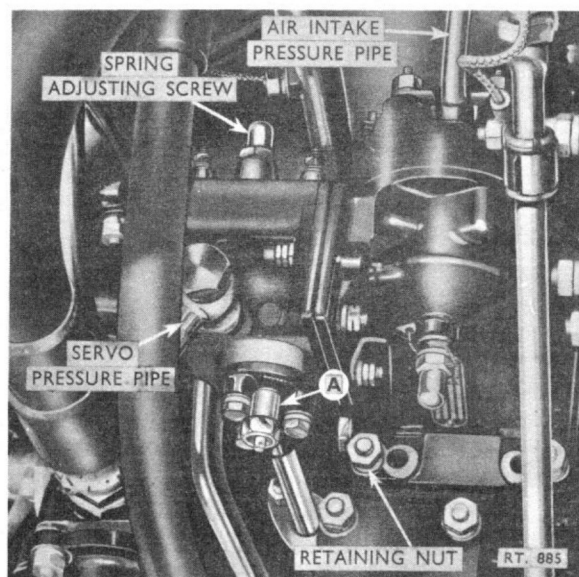

Fig. 4 Barometric pressure control
20. Remove the servo pressure pipe connecting the b.p.c. to the h.p. fuel pump (fig. 4) and the nuts securing the air intake pressure pipe to the top of the capsule chamber.
23. Fuel pump delivery pressure is to be checked at the pressure tapping on the b.p.c. (A. fig. 4).
25. Remove the domed cover from the adjuster (fig. 4), slacken the locknut and turn the adjuster clockwise to increase fuel pressure and vice versa. One quarter of a complete turn of the adjuster will alter the fuel pressure by about 60 lbf/in².